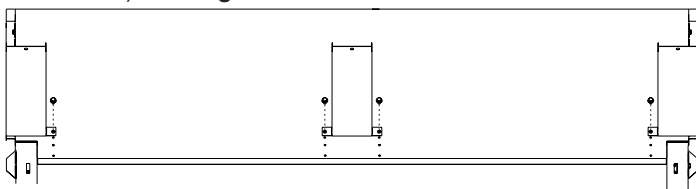

Figure 4
4. Secure the brackets to the fireplace top with four screws as shown in **Figure 4**. The screws are located in the hardware packet inside the envelope pack. There are holes located in the top of the fireplace for each mounting bracket. The hole closer to the edge of the fireplace is for mounting noncombustible board around the opening. The other hole is for mounting the non-combustible board to the fireplace face (top, side and bottom). See **Figures 4 and 6**.